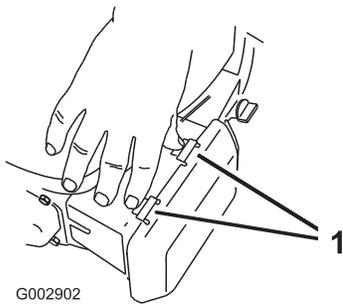

Figure 17
1. Press down on the latch tabs on top of the air-cleaner cover (Figure 17).
3. Remove the air-cleaner element (Figure 17).